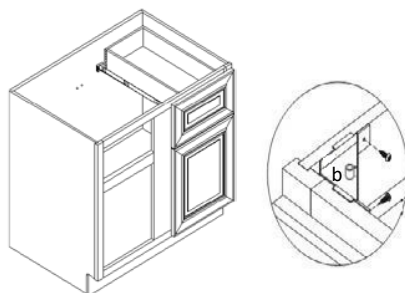

Figure 9
8. Installing the Corner Braces (Figure 9) and inserting the Drawer: Place the corner braces (b) on each top corner of the cabinet and secure them with the 1/2" Corner Brace Screws (c). Slide the drawer into the rails and check the drawer position and adjust slide rail location for best operation if necessary. Install the bumpers (a) on the door and drawer front.